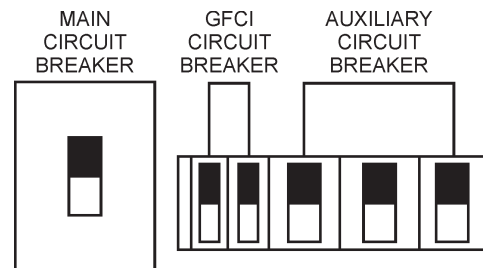

Figure 50. Main, Aux. and GFCI Circuit Breakers (ON)
14. Place the **main, GFCI, and aux.** circuit breakers in the **ON** position (Figure 50).